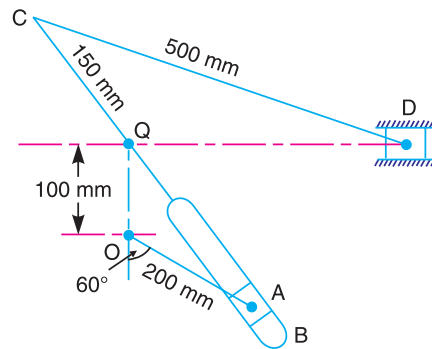

Fig. 8.44
9. Fig. 8.44 shows a quick return motion mechanism in which the driving crank  $OA$  rotates at 120 r.p.m. in a clockwise direction. For the position shown, determine the magnitude and direction of 1, the acceleration of the block  $D$ ; and 2. the angular acceleration of the slotted bar  $QB$ . [Ans. 7.7 m/s2; 17 rad/s2]